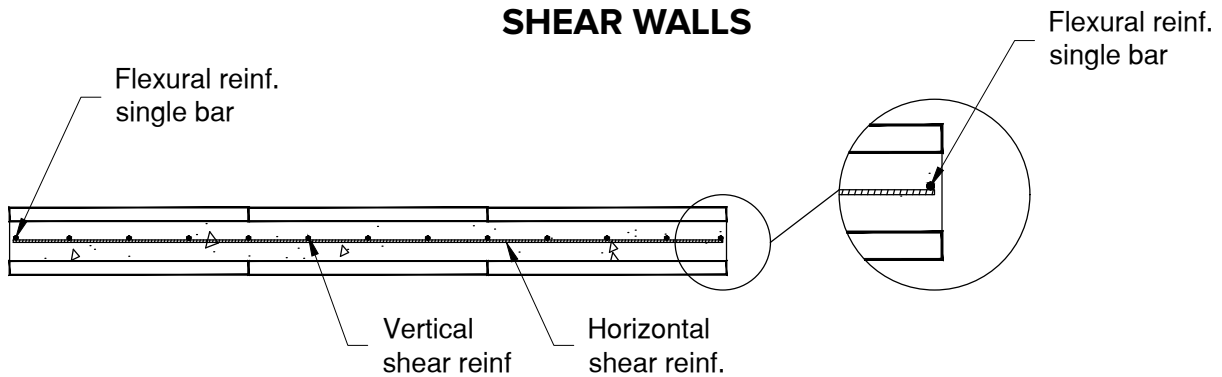

FIGURE 6: PLAN VIEW
1. Shear wall Figures 6 to 8 to be used in conjunction with Tables 6A and 6B.
- Table 6A to be read in conjunction with Shear Wall Figures 6 to 8.
- Table 6B to be used in conjunction with Shear Wall Figures 6 to 8.